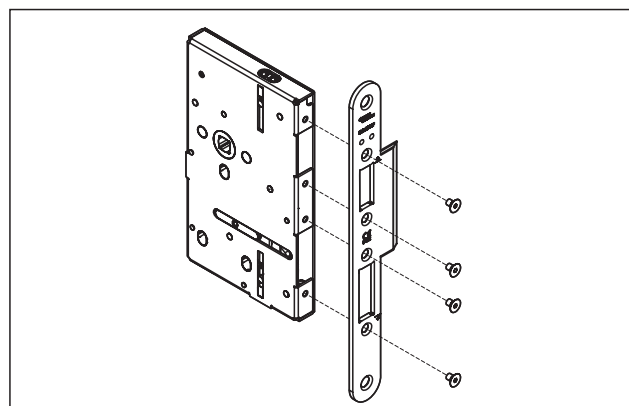

Fig. 36 Screw on forend
2. If necessary, screw the forend to the lock (Fig. 36) with 1.5 Nm according to the DIN direction of the door.